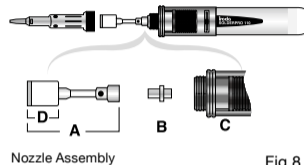

Fig.8
2. Unscrew Nozzle Assembly (A) from the Torch Body (C). (Fig. 8) Pliers may be used to lightly grasp the shank in order to loosen it. Do not grasp and turn the Ceramic Head. (D)
3. Carefully remove Orifice connector (B) by lifting it out of the torch body. Note that the shorter side of Orifice Connector fits into the Torch Body.
5. Replace new (or clean) Orifice connector (B) remembering to insert the shorter side into the Torch Body.